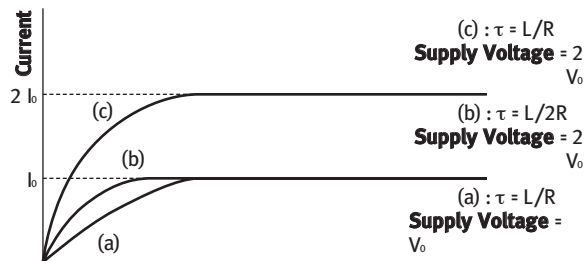

Fig. 8-2
A step motor operated at a fixed voltage has a decreasing torque curve as the frequency or step rate increases. This is due to the rise time of the motor winding which limits the value of the coil current. This is determined by the ratio of inductance to resistance (L/R) of the motor and driver as illustrated in Fig 8-2 (a).
- a) Increase the supply voltage and add a series resistor, Fig 8-2 (b), to maintain rated motor current and reduce the L/R of the circuit.
- b) Increase the supply voltage, Fig 8-2 (c), improving the time constant (L/R) of the circuit. However, it is necessary to limit the motor current with a bi-level or chopped supply voltage.